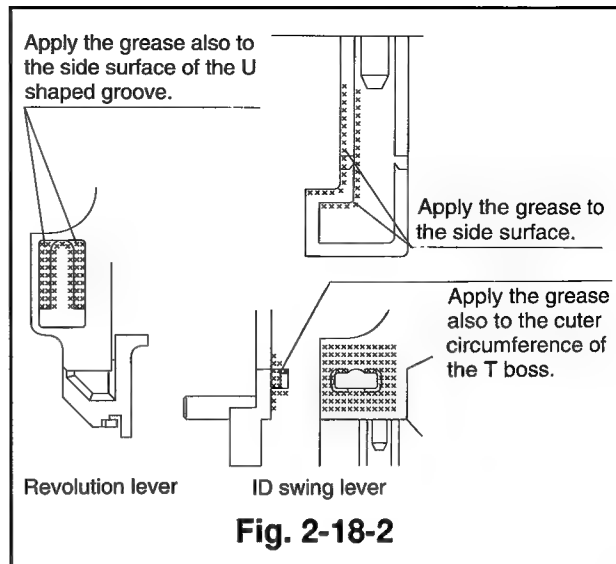

Fig. 2-18-2
- ① Apply the grease(PG-641)[859D055O30] to the areas shown in Fig. 2-18-2 of the new revolution lever and the ID swing lever.